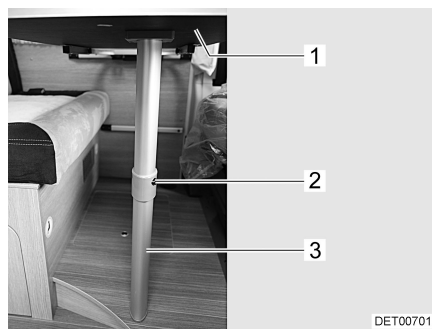

Fig. 31 Suspension table with fold-out leg
- Slightly raise the front of the table top (Fig. 31,1).
- Press the release knob (Fig. 31,2) and fold the lower part of the fold-out leg (Fig. 31,3) by 90°.